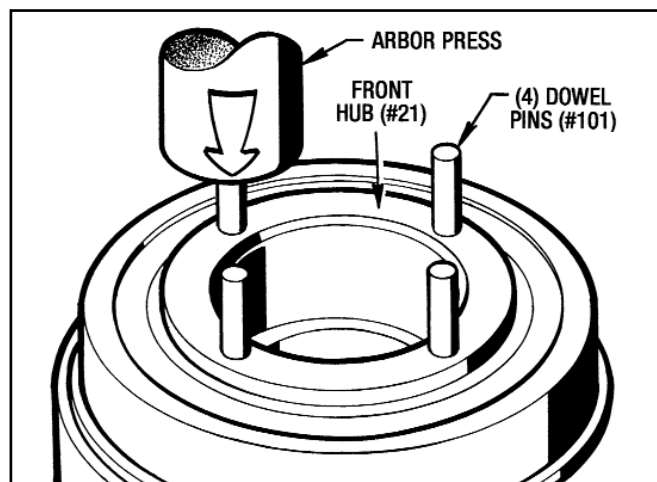

Figure 7.3 - Installing Dowel Pins (#101)
1. Clean the (4) Dowel Pins (#101) and the (4) holes in the Front Hub (#21) with **Loctite Primer T**.
2. Apply a film of **Green Loctite #609** to one end of each dowel Pin (#101) and press them into the Front Hub (#21) with an Arbor Press until they are firmly seated as shown in Figure 7.3.